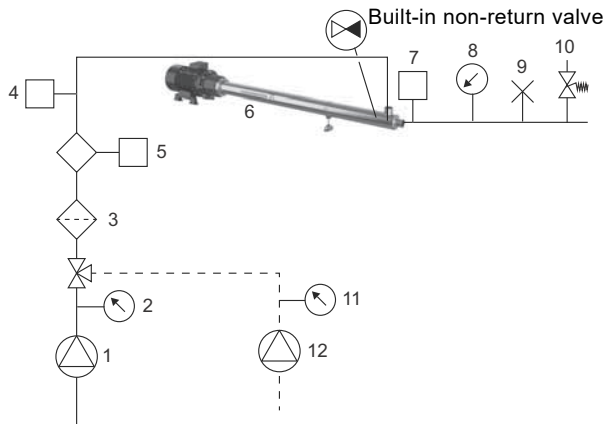

Fig. 17 Example of BMS hs pump
- 0 to 1700 rpm in maximum three seconds (1). This setting must not be changed.
- Ramp up from 1700 rpm is set to 1500 rpm/min (1000 rpm/40 seconds) (2). It can be changed according to application requirement.
4. Set the outlet pressure of the pump (8) to the desired value. See fig. 17.
5. Check that the inlet pressure (2) of the pump is higher than 1.0 bar and lower than 35.0 bar.